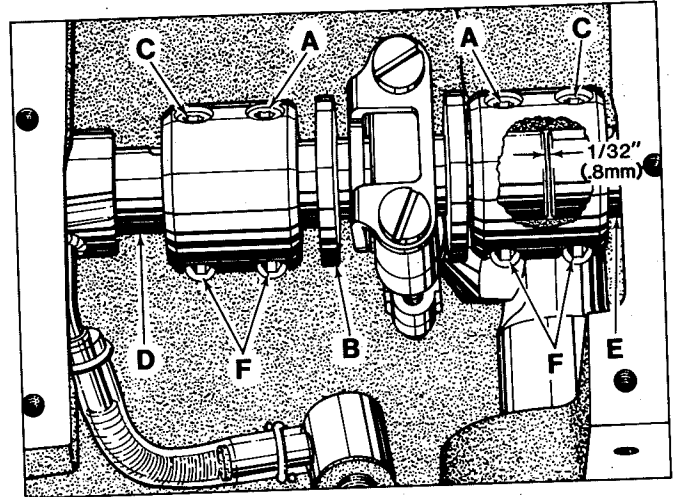
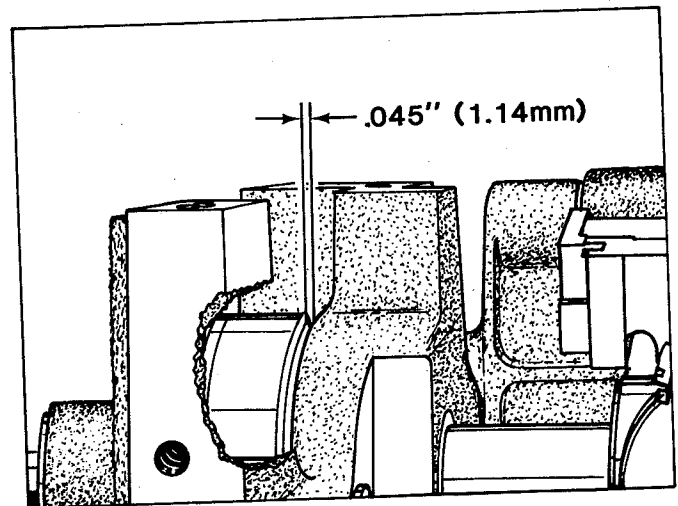

Fig. 21
Fig. 22
As viewed looking down from rear of machine, spot screws (A, Fig. 21) in the couplings must align with the spots in the looper drive crank (B) and set screws (C) must align with the flats on crankshaft (D) and mainshaft (E). Mainshaft must be positioned laterally with .045 inch (1.14mm) clearance between the right side of its head and the bed casting as shown in Fig. 22.
Looper drive crank (B, Fig. 21) must be positioned laterally with  $1/32$  inch (.8mm) clearance between it and mainshaft (E) as shown in Fig. 21. Once these settings are made, it is very important that the couplings are tightened in the following sequence for best performance.